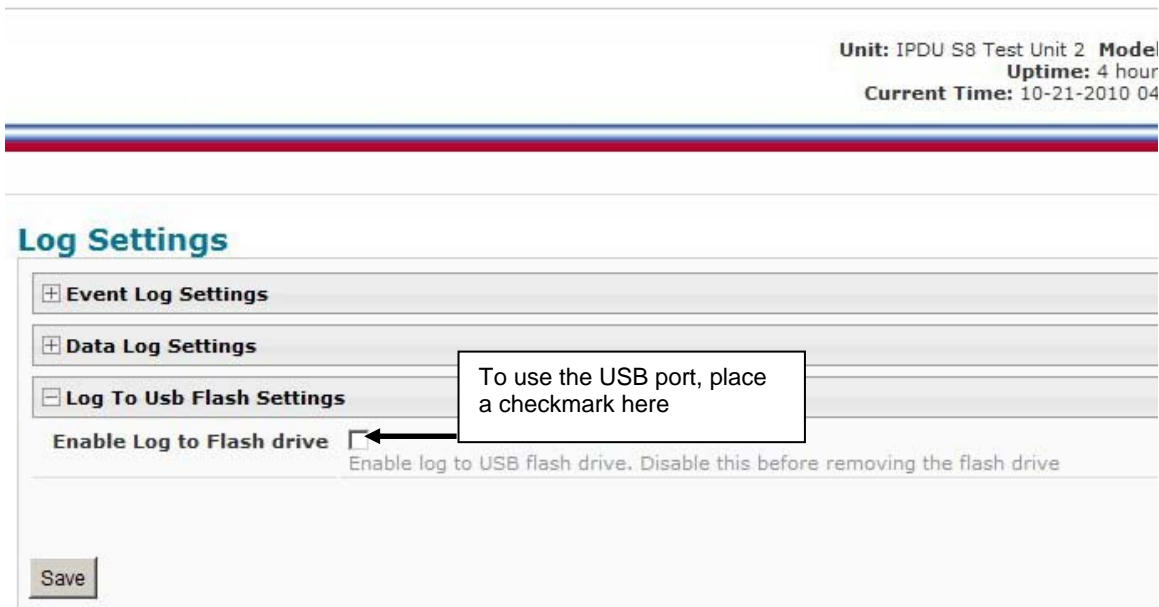

Figure 61- Enable USB Port
2. Place a checkmark in the “Enable Log to Flash drive” box found on the Log Settings page (Figure 61).